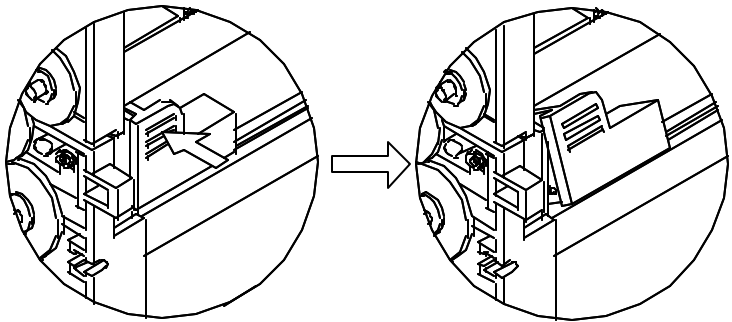
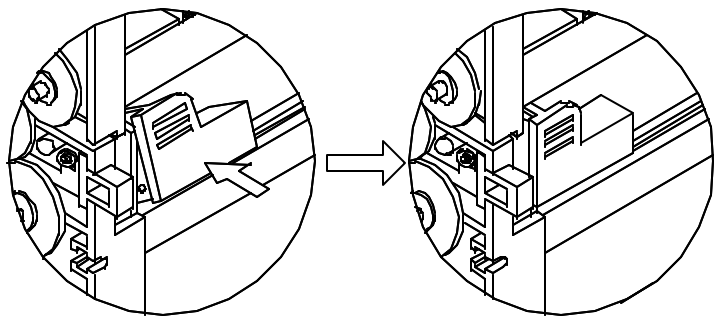
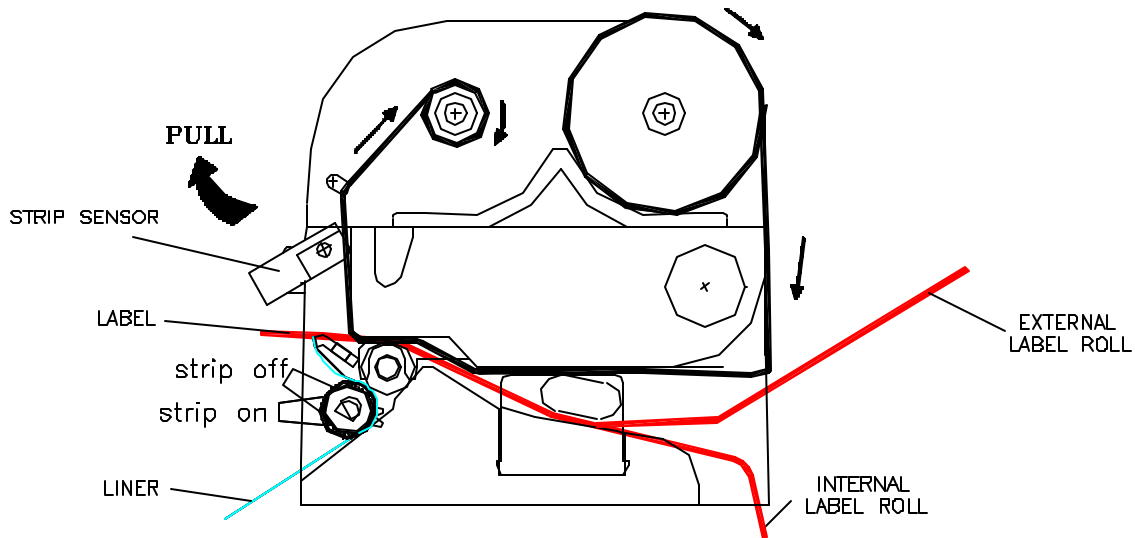

Fig. 2.5.2a
Fig. 2.5.2b
Fig. 2.5.3
9. Turn up the strip sensor (see figure 2.5.2a), and you are ready to start printing the labels (see figure 2.5.3). (Figure 2.5.2b show you how to turn down the strip sensor.)
Press the top area (3 – bar area) and lift from the bottom as shown in figure 2.5.2a.